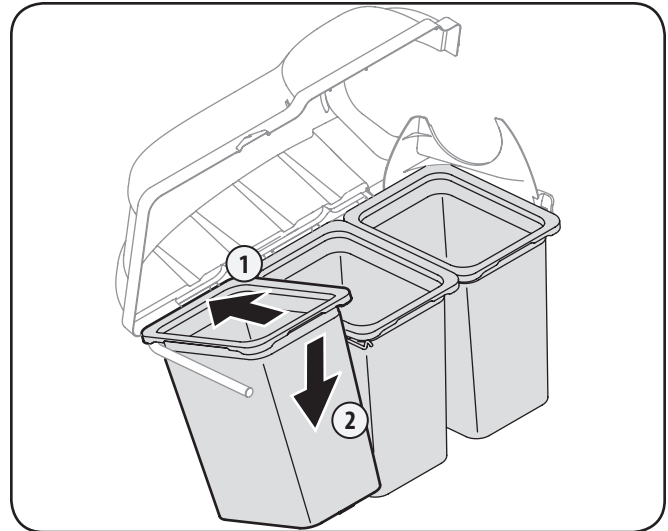

Figure 4-15
- Install the bag assemblies onto the bag support brackets by inserting the front edge in first, as seen in Fig. 4-15, and setting the back edge down until it fits into the assembly.